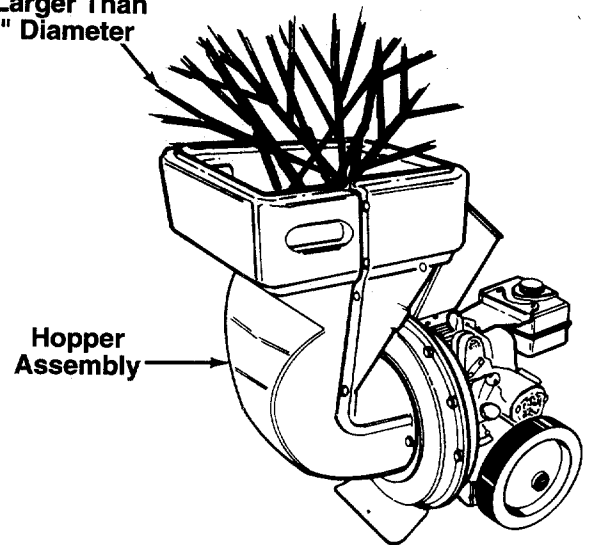

FIGURE 4.
1. Leaves and small branches up to 1/2" diameter can be fed into the hopper assembly. See figure 4. If it becomes necessary to push material into the shredder, use a small diameter stick—NOT YOUR HANDS. The stick cannot exceed 1/2" in diameter so it will be ground up if it gets into the impeller assembly.